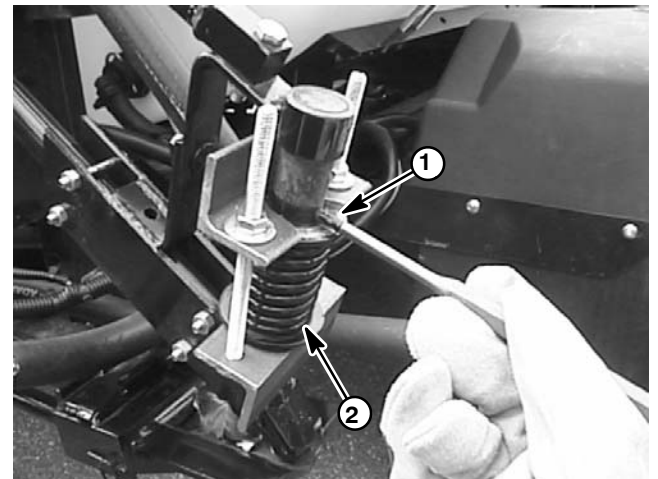

Figure 40
4. Compress spring in breakaway assembly slightly. Drive roll pin from hinge (Fig. 40). Remove flat washer and spring from assembly.